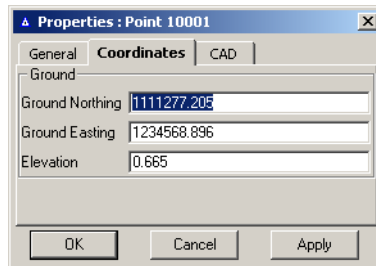

Figure 4-60. Point Properties – Coordinates Tab
2. On the **Properties** dialog box, click the *Coordinates* tab (Figure 4-60).